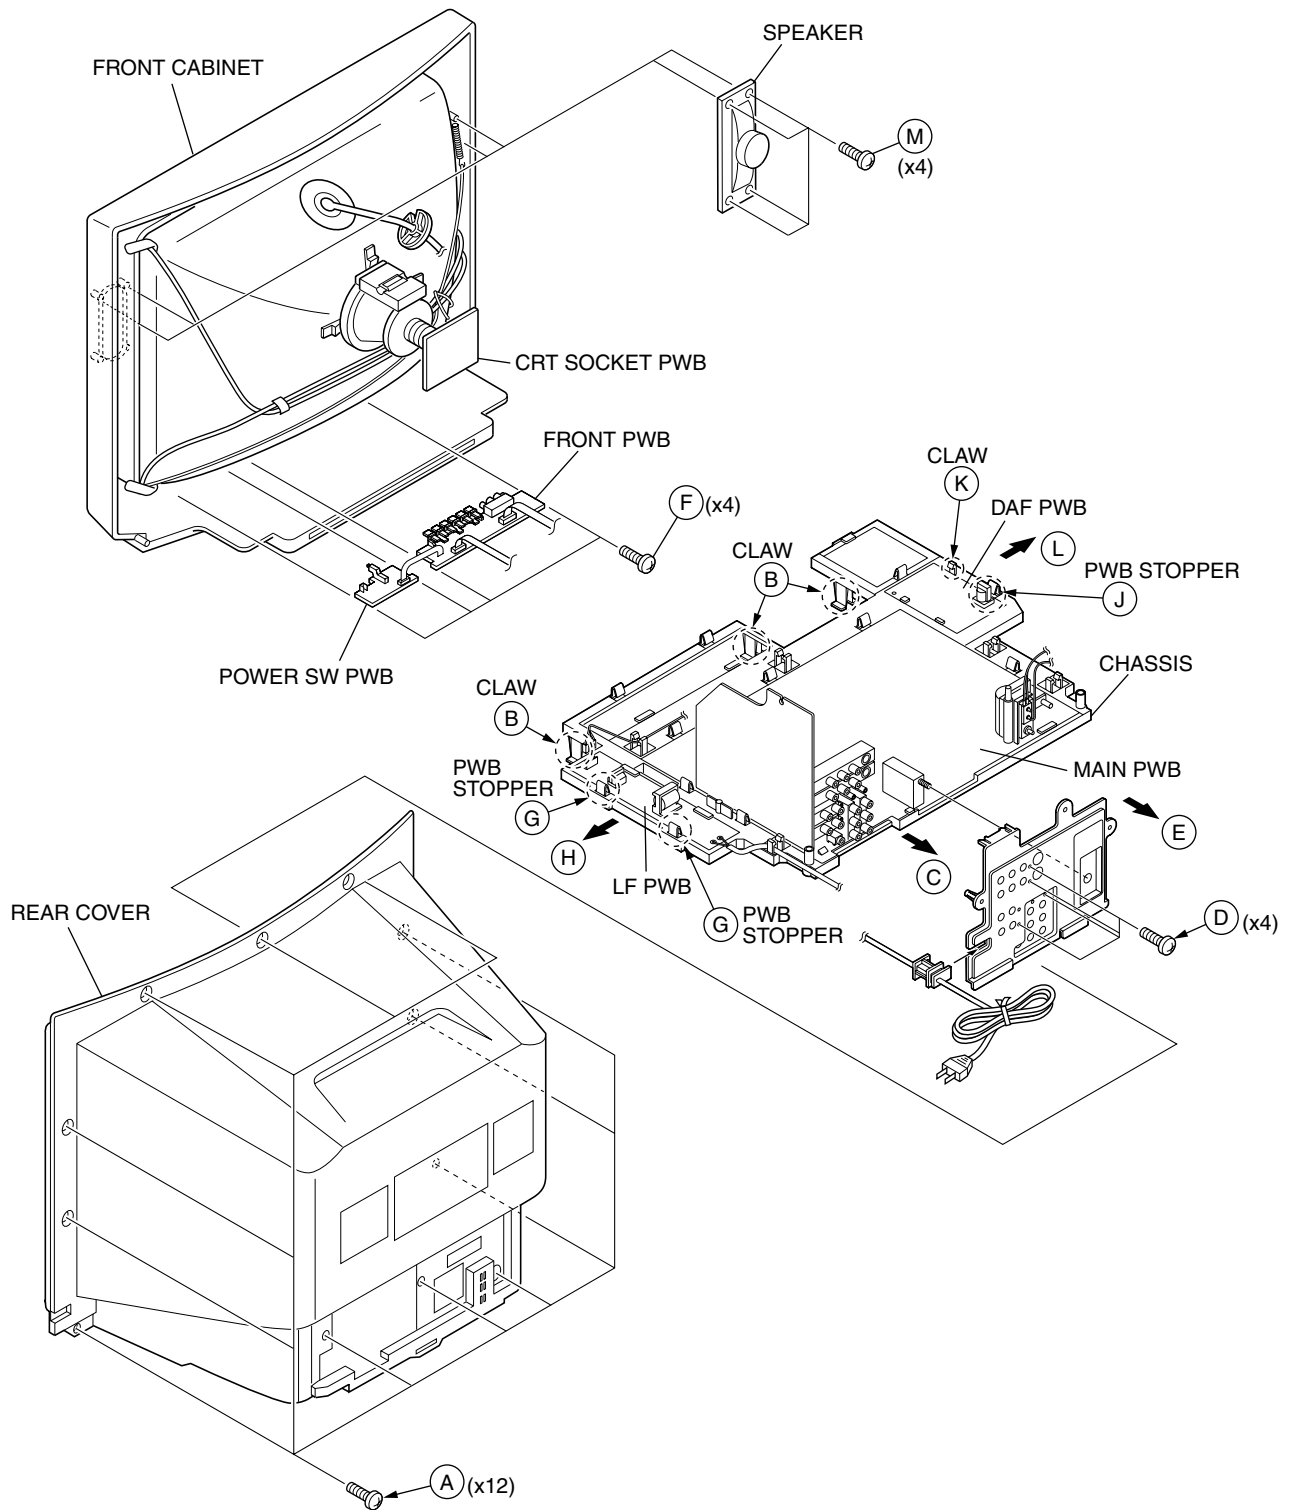

Fig.1
2. Remove the 12 screws marked (A) as shown in Fig.1.
1. Slightly raise the both sides of the chassis by hand and remove the 3 claws marked (B) under the chassis from the front cabinet as shown in Fig.1.
2. Withdraw the chassis backward along the rail in the arrow direction marked (C) as shown in Fig.1.
1. Remove the 4 screws marked (D) as shown in Fig.1.
2. When you pull out the TERMINAL BOARD in the direction of arrow marked (E) as shown in Fig.1, it can be removed.
1. Remove the 4 screws marked (F) as shown in Fig.1.
1. Lift the left side of the LF PWB while pressing the 2 PWB stoppers marked (G) in the arrow direction marked (H) as shown in Fig.1.
1. Lift the right side of the DAF PWB while pressing the PWB stopper marked (J) and claw marked (K) in the arrow direction marked (L) as shown in Fig.1.
1. Remove the 4 screws marked (M) as shown in Fig.1.
<p>(4) System constant check and setting</p> <ol style="list-style-type: none"> 1) Press SLEEP TIMER key and, while the indication of "SLEEP TIMER 0 MIN." is being displayed, press DISPLAY key and VIDEO STATUS key on the remote control unit simultaneously. 2) The SERVICE MENU screen of Fig.1 is displayed. 3) While the SERVICE MENU is displayed, again simultaneously press the DISPLAY and VIDEO STATUS keys to display the Fig.2 SYSTEM CONSTANT screen. 4) Refer to the SYSTEM CONSTANT table and check the setting items. Where these differ, select the setting item with the MENU UP/DOWN key and adjust the setting with the MENU LEFT/RIGHT keys. (The letters of the selected item are displayed in yellow.) 5) After adjusting, release the MENU LEFT/RIGHT key to store the setting value. 6) Press the EXIT key twice to return the normal screen. 	 <p style="text-align: center;">Fig.1</p>
<p>(7) SERVICE MENU setting Verify what to set in the SERVICE MENU, and set whatever is necessary.(Fig.1) Refer to the SERVICE ADJUSTMENT for setting.</p>